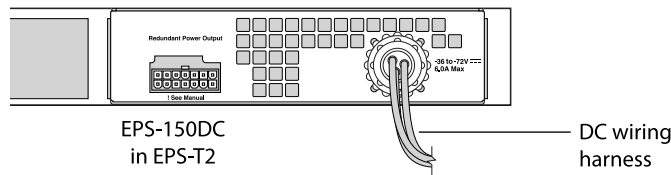

Figure 315: Connecting the Input Cable to the EPS-150DC Unit
- 2 Plug the DC cable connector into the DC power supply socket on the rear of the EPS-150DC unit. The pins must align properly for the cable to completely connect. Do not force the cable into the socket until the keyway is aligned properly. Refer to Three-wire Cable Harness for the DC wiring harness connector and to Figure 315: Connecting the Input Cable to the EPS-150DC Unit on page 344 for the DC power socket location on the rear of the EPS-150DC unit.